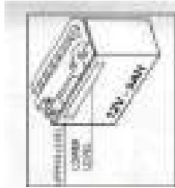

Fig. 44
4.1.1 The level of electrolyte must always be in between the upper and lower levels marked on the battery. Normally a constant level in the specified range is maintained for about two months or approximately 2000 kms (Fig. 44).